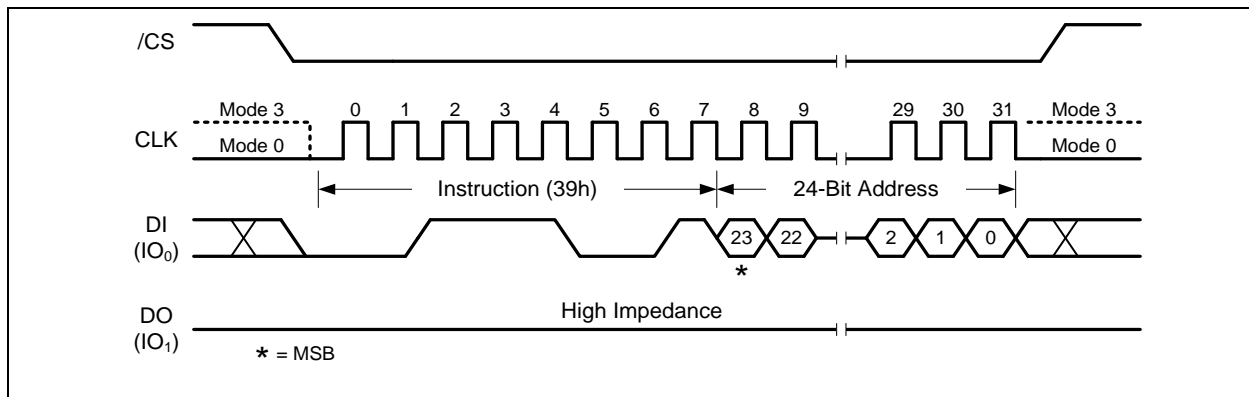

Figure 53. Individual Block Unlock Instruction
To unlock a specific block or sector as illustrated in Figure 53, an Individual Block/Sector Unlock instruction must be issued by driving /CS low, shifting the instruction code “39h” into the Data Input (DI) pin on the rising edge of CLK, followed by a 24/32-bit address and then driving /CS high.